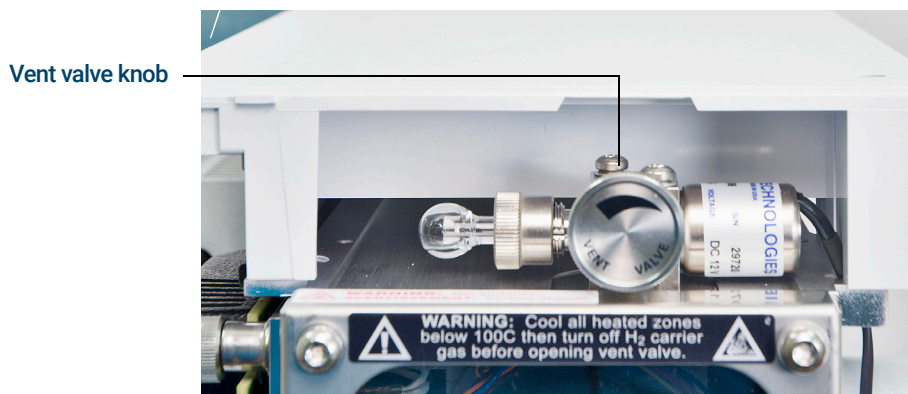

Figure 38 Vent valve knob
- 3 Verify that the vent valve is open by turning it clockwise until closed. (See Figure 38 on page 113.)
- 4 Open the vent valve by turning it counterclockwise 45 degrees. (See **Figure 38**.)
- 8 Close the vent valve when it makes a hissing sound. (See **Figure 38**.)